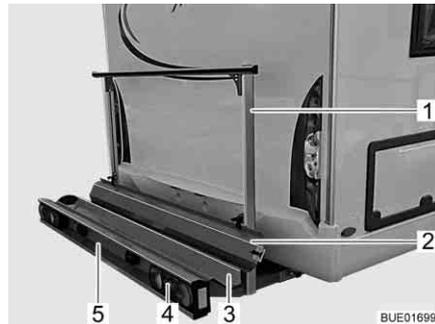
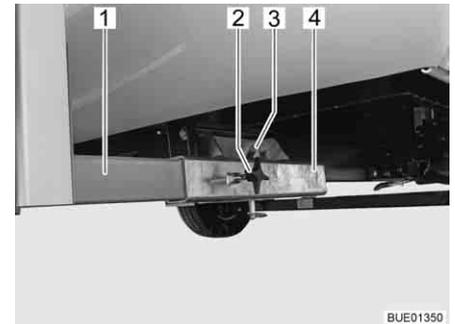

Fig. 6 Load rack
Fig. 7 Attachment to vehicle
The load rack (Fig. 6) permits transport of a motorcycle or a motor scooter weighing up to 130 kg.
- Rack trough (Fig. 6,3) and retaining clip (Fig. 6,1) with attachment to vehicle (Fig. 7)
- Rear lights (Fig. 6,4)
- Vehicle licence plate light (Fig. 6,5)
- Ramp (Fig. 6,2)
- Attachment to vehicle** The two side members (Fig. 7,1) of the load rack are fixed to the floor of the vehicle by means of tommy screws (Fig. 7,2) on the square drives (Fig. 7,4). The load rack is secured by a bolt (Fig. 7,3) with locking ring.